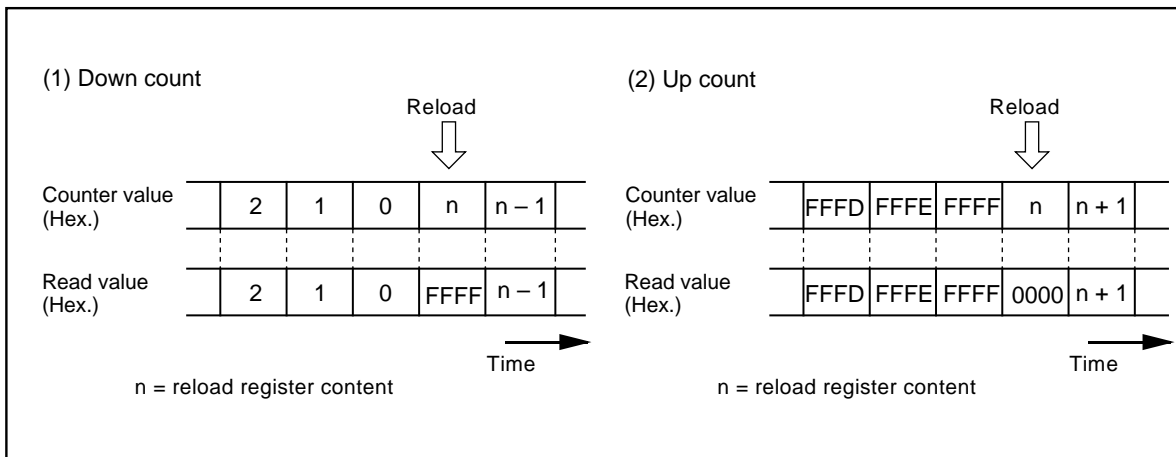

Figure 2.2.29. Reading timer Ai register
- (1) To clear reset, the count start flag is set to “0”. Set a value in the timer Ai register, then set the flag to “1”.
- (2) Reading the timer Ai register while a count is in progress allows reading, with arbitrary timing, the value of the counter. Reading the timer Ai register with the reload timing shown in Figure 2.2.29 gets “FFFF₁₆” by underflow or “0000₁₆” by overflow. Reading the timer Ai register after setting a value in the timer Ai register with a count halted but before the counter starts counting gets a proper value.